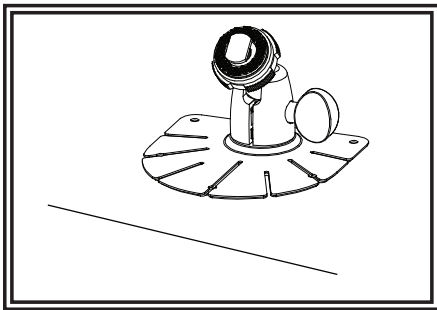

Figure 4
2. For mounting the pedestal using the adhesive, prep the surface using rubbing alcohol before installation as shown in Figure 4.